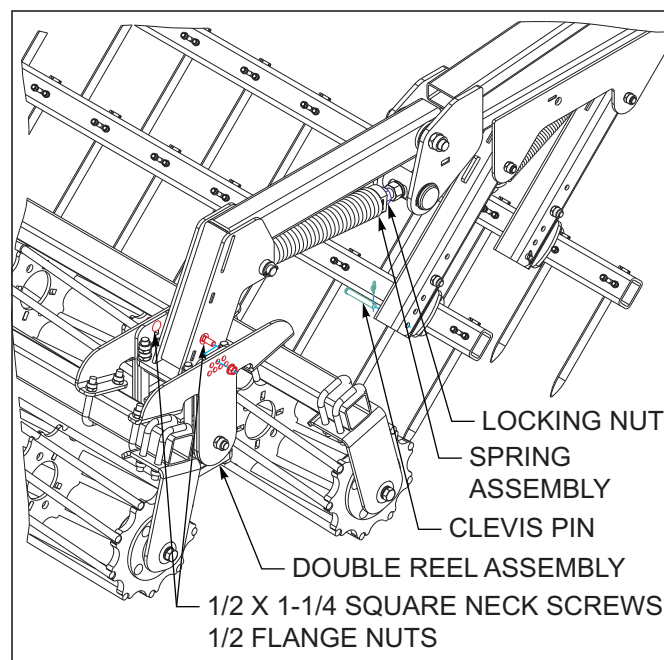

Figure 4-21: Spike Tooth Angle & Reel Adjustment
3. To change the spike tooth angle *See Figure 4-21*, raise the finishroll so the harrow is off the ground. Remove the clevis pin at the lower end of each spike bar arm. Moving the pin to a higher adjustment hole will make the spike teeth stand more vertical and be more aggressive. Moving the clevis pin lower will allow the spike tooth to lay flatter and not as aggressive. Set the clevis pin adjustment the same for each end of the spike bar. Front spike bars may be set different than rear bars if desired.
6. Use the rear spring assembly to adjust the height of the of the double reel assembly *See Figure 4-21*. Initially set the reels to run approximately even with the bottom of the finishroll sweeps. To adjust the reel height, loosen the locking nut against the front of the spring assembly and the locking nut against the 2-1/2 dia adjustment pin. Rotate the head of the adjustment bolt to raise or lower the reel assembly. Retighten the locknuts against the spring end and the spring pin. Make sure the reel heights are set so the reels are even across the back of the finishroll.
7. The double reel assembly may also be adjusted for front-to-rear pitch *See Figure 4-21*. The reels should run approximately level front-to-rear while working in the field. If ground conditions are very loose, or the reels try to push dirt, it may be necessary to run the front reel slightly higher than the rear reel. To change the reel pitch, lower the reels so they are just above the ground to prevent uncontrolled falling. Remove the two round head square neck $\frac{1}{2}$ x 1-1/4 screw and flange head nuts from each arm assembly. Rotate the double reel assembly to the desired pitch, and reinstall the screws. Adjust the reel pitch the same for all harrow sections.